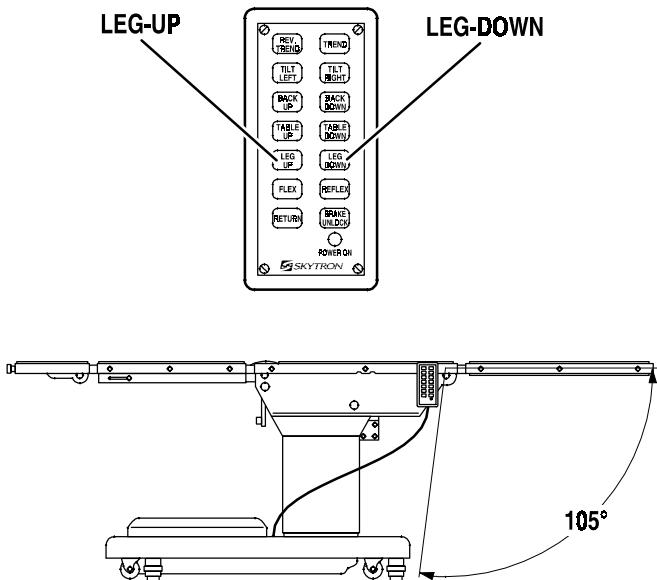

Figure 3-9. Leg Section Positioning (6001)
**g. Leg Section.** To lower the leg section (6001 only), press the LEG DOWN button (figure 3-9). The leg section will go down to 105° below horizontal. To raise the leg section, press the LEG UP button. The leg section will go up to 20° above horizontal.